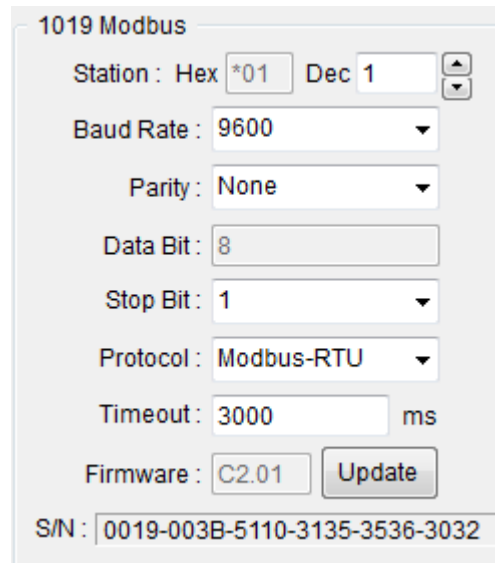

Figure 1
- 5) Can setup the communication parameter from below **figure 1**. When finish the setup, must click the update button.